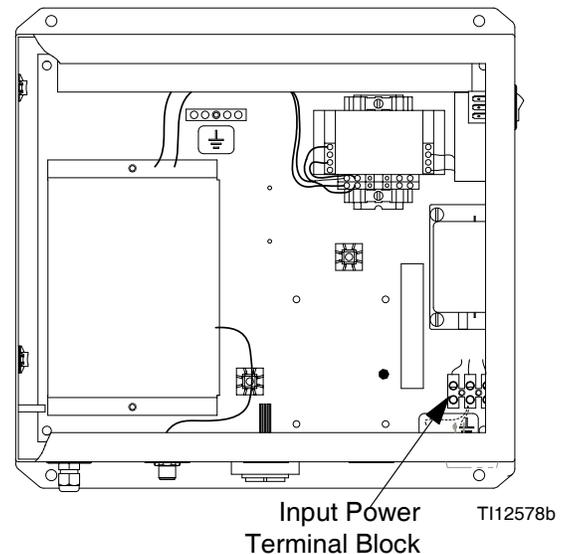

FIG. 12. Main Power Connection
2. See FIG. 12 and the **System Electrical Schematic** on page 30 for the L1, N, and ground wiring connections inside the EasyKey.